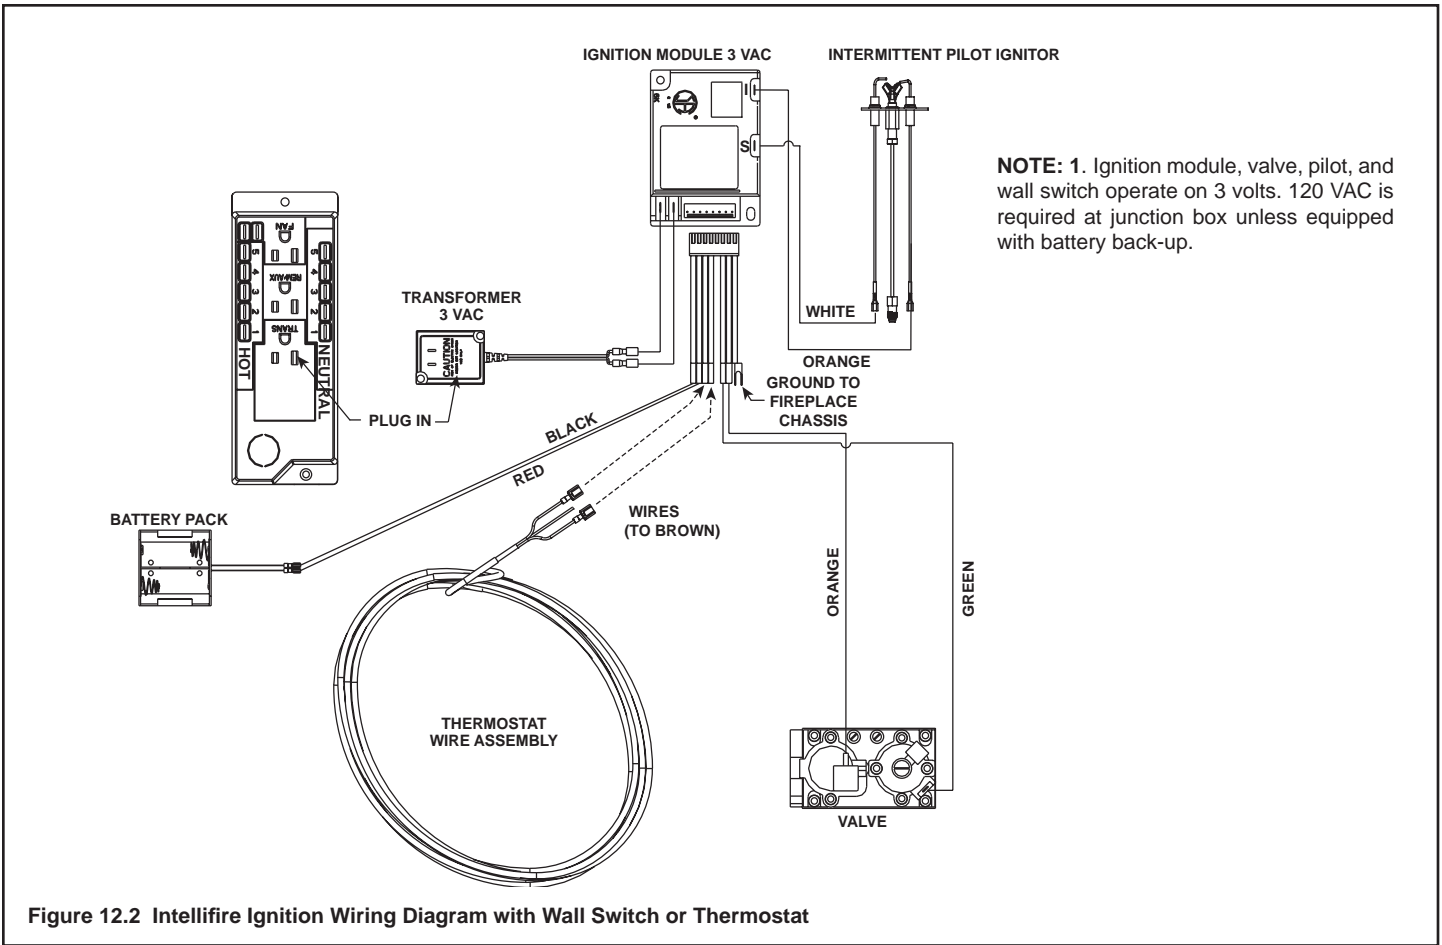

Figure 12.2 Intellifire Ignition Wiring Diagram with Wall Switch or Thermostat
- Refer to Figures 12.2 and 12.3, Intellifire Pilot Ignition (IPI) Wiring Diagram.